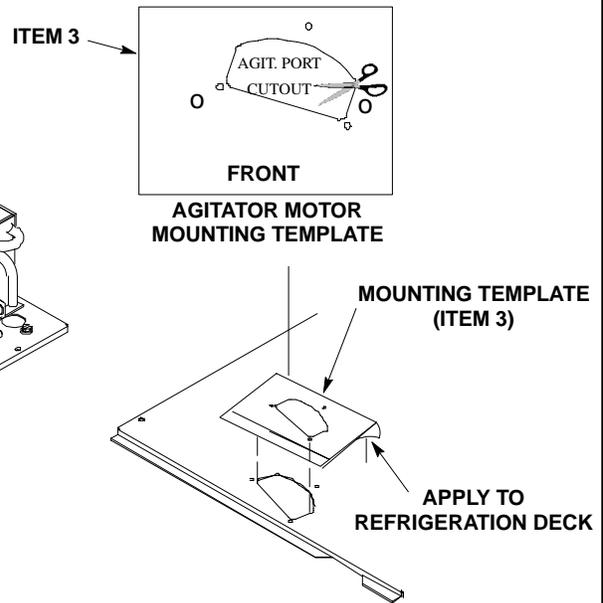
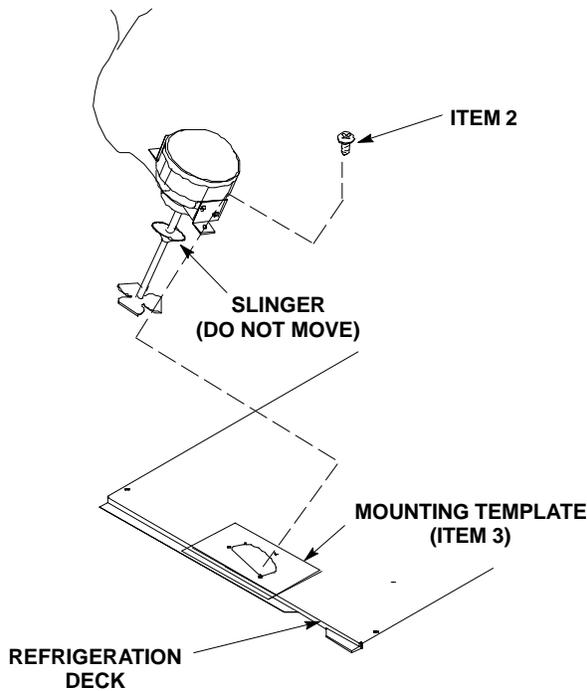

FIGURE 2.
FIGURE 3.
1. Cut out "AGIT PORT CUT-OUT" area of the MOUNTING TEMPLATE (item 3) with a scissors as shown in Figure 2. Remove adhesive covering from back side of the mounting template, then place template (align template holes with existing agitator motor mounting holes) over the existing agitator motor cut-out in the refrigeration deck.
2. Temporarily install the electrical control box cover to protect the PC boards from metal shavings while drilling. Center punch two hole locations indicated on the mounting template, then using DRILL BIT (item 4) drill indicated holes in the refrigeration deck.
3. Remove electrical control box cover. Remove mounting template from the refrigeration deck, then install new AGITATOR MOTOR ASSEMBLY (item 1) on the refrigeration deck (see Figure 3) and secure with two SCREWS (item 2).